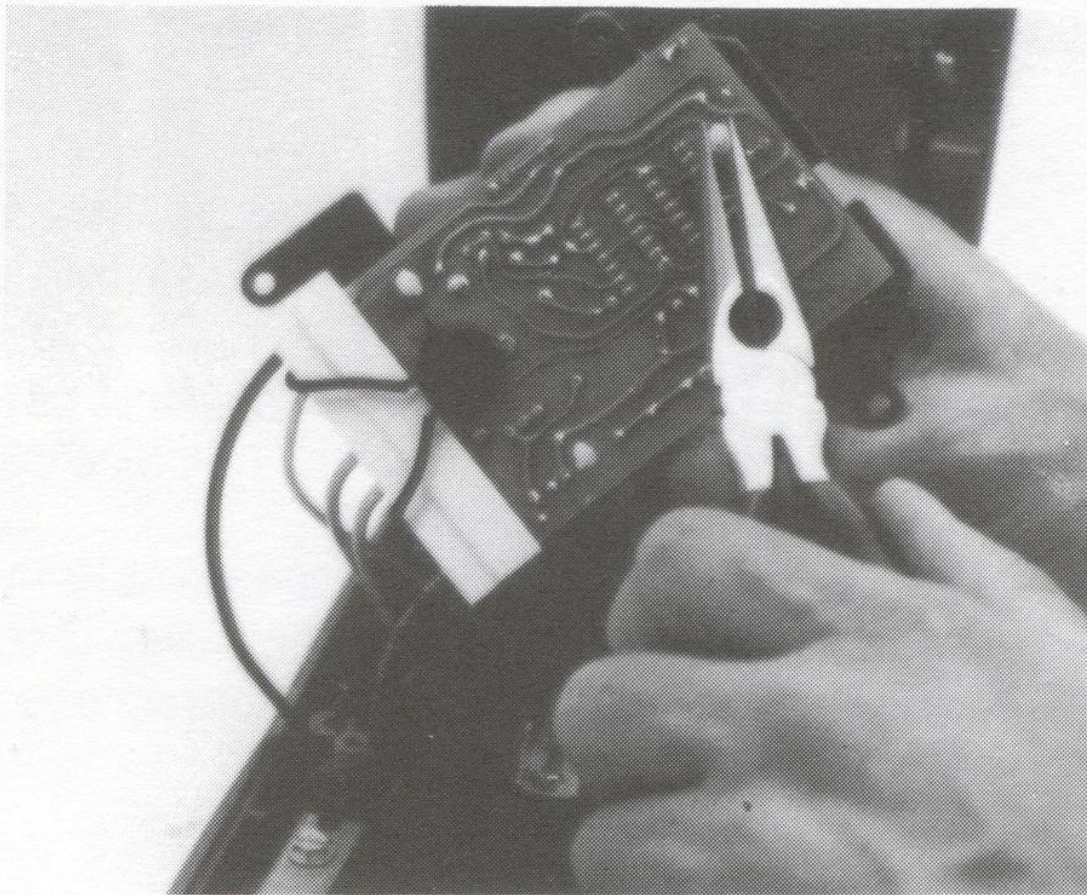

Figure 32
- Using needle nose pliers, depress the tips of the white standoffs (*figure 32*). Circuit board will pull free.